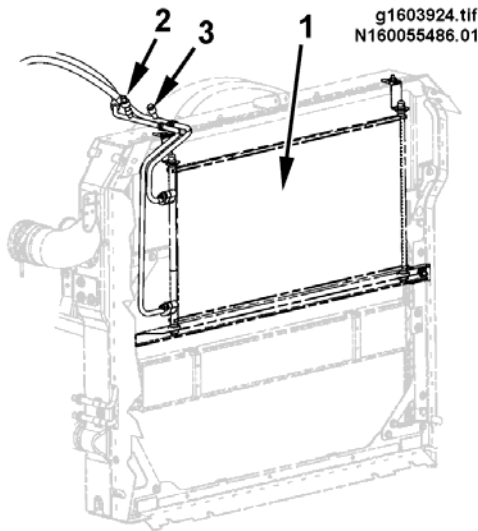

Figure 24 A/C Condenser and Pressure Transducer
NOTE – Refer to Figure 24 while performing the following Remove and Install procedures.
1. Disconnect electrical connection to pressure transducer (2, Figure 24).